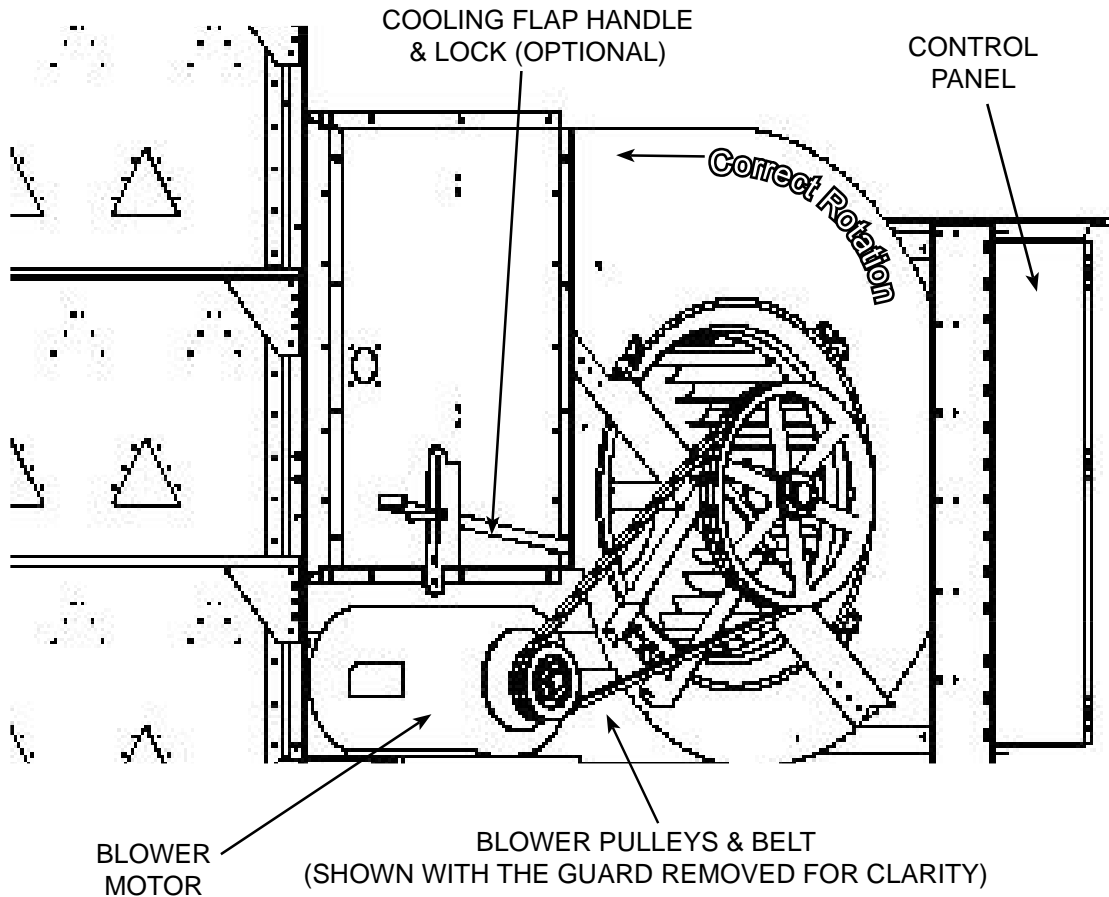

Figure 3.18 - Blower System - lowest dryer section shown (with optional cooling system).
Refer to Figure 3.18:
- The cooling floor(s) work in combination with a manually positioned cooling flap that can direct a portion of the blower system airflow. The cooling flap is in-line with the position of the exterior handle so that the operator can tell at a glance where the cooling flap is positioned. (See Figure 3.18).